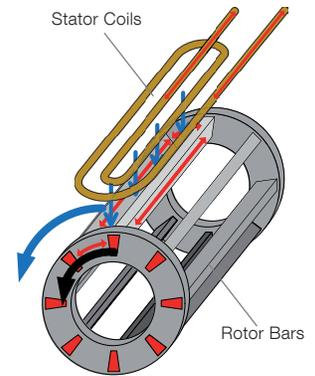

Figure 1: AC Induction Motor
1. The small, light blue arrows in *Figure 1* represent the magnetic field produced by the stator coils.